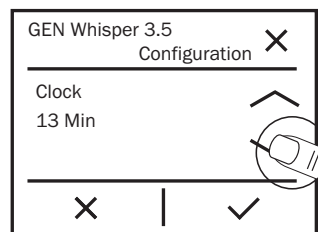

Figure 12
- 8 Touch the right pointing arrow > on the menu bar. The minutes setting of the clock is shown (figure 12). Touch the up/down pointing arrows to change. Example: 13. Then touch ✓ to confirm.